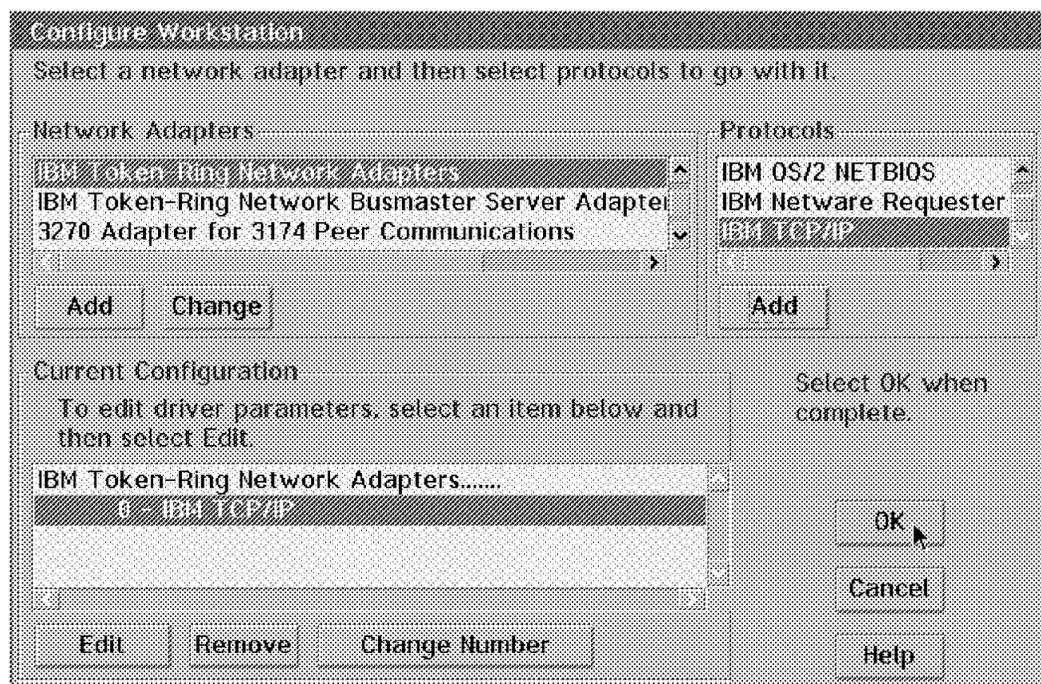

Figure 48. Configuring Your Token-Ring LAN Adapter for TCP/IP
- The panel shown in Figure 48 appears.